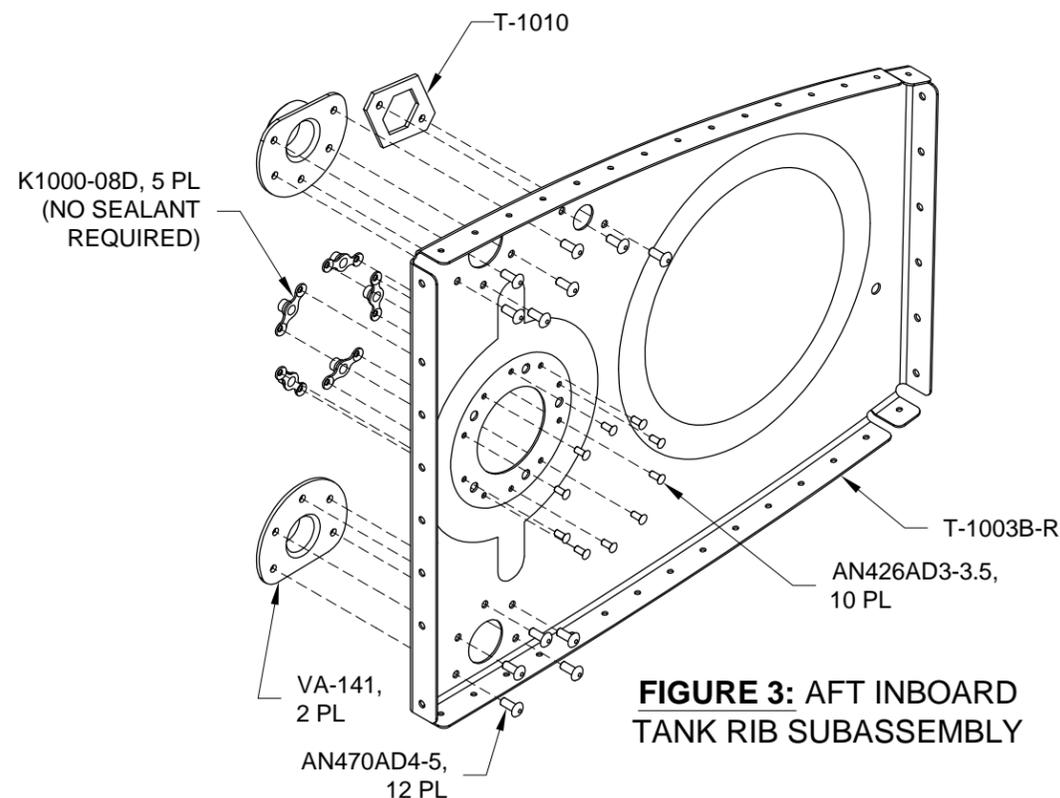

FIGURE 3: AFT INBOARD TANK RIB SUBASSEMBLY
Step 8: Attach the VA-141 Fuel Flanges, T-1010 Anti-Rotation Plate and nutplates to the T-1003B-R Tank Inboard Rib - Aft as shown in Figure 3.
Step 2: Rivet the T-00007B Fuel Cap Flange and T-00005B-L Vent Line Clip to the T-00001-L Fuel Tank Skin as shown in Figure 1. See Figure 2 for rivet call-outs. Make sure the thin part of the fuel cap flange is facing the aft and fwd direction. See Page 18-03 Figure 3.
Step 3: Rivet the T-1003C-R Tank Inboard Rib - Fwd, T-1004-L Tank Interior Ribs, and T-1003-L Tank Outboard Rib to the T-00001-L Tank Skin as shown in Figure 3. See Figure 1 for rivet call-outs. Keep the T-00003-L & -R Tank J-Stiffener area clean of sealant for later installation of the J-stiffener.